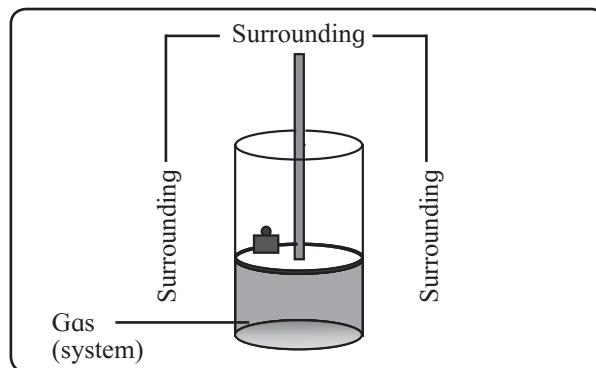

Fig. 4.1 : System and surroundings
4.2.1 System and surrounding : Consider a gas enclosed in a cylinder equipped with a movable piston as shown in Fig. 4.1. Suppose we undertake study of change in volume of a gas and the amount of energy released or gained by a gas when the pressure is varied by
4.2.4 State functions : As shown in Fig. 4.1, certain amount of a gas is enclosed in a cylinder fitted with a movable piston. Suppose the pressure of the gas is 1 bar (P_1), volume is 1 dm³ (V_1) and temperature is 300 K (T_1) in the beginning. This initial state of the system is fully defined by specifying the values of these properties. Such properties defining the state of a system, are **state functions**.
Consider a gas enclosed in a cylinder fitted with a movable piston shown in Fig. 4.1. The gas has temperature T_1 , pressure P_1 and volume V_1 . These state functions continue to be constant as long as piston is motionless, and no heat exchange takes place. This is an equilibrium state.